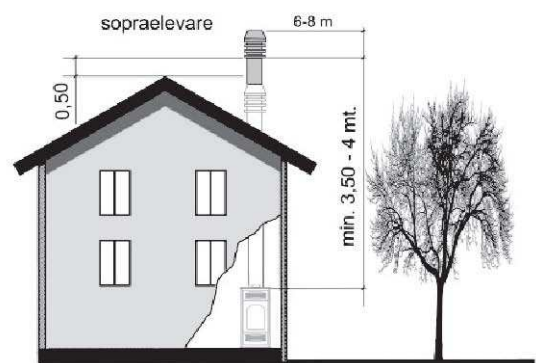

Fig.4
- The chimney pot must be positioned so as to guarantee an adequate dispersion and dilution of combustion products and, in any case, outside the zone of reflux. This zone can be different sizes and shapes depending on the angle of slope of the roof, so it is necessary to adopt the minimum heights shown in Fig.4 and Fig.5.
- The chimney pot must be of windproof and exceed the height of the ridge, Fig.4 and Fig.5.
- Any buildings or other obstacles that exceed the height of the chimney pot must not be close to the chimney pot itself (Fig.4).